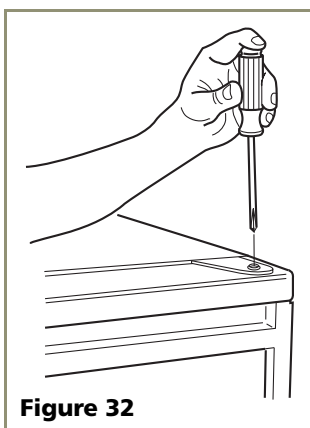

Figure 32
1. Remove top hinge screw pin (Phillips screwdriver, see **Figure 32**). Remove door by tilting forward and lifting off bottom hinge pin.